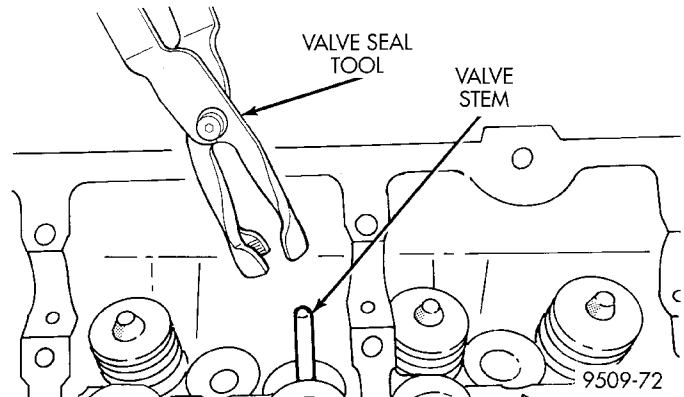

Fig. 30 Valve Stem Oil Seal Tool
- (5) Remove valve spring.
- (6) Remove valve stem seal by using a valve stem seal tool (Fig. 30).